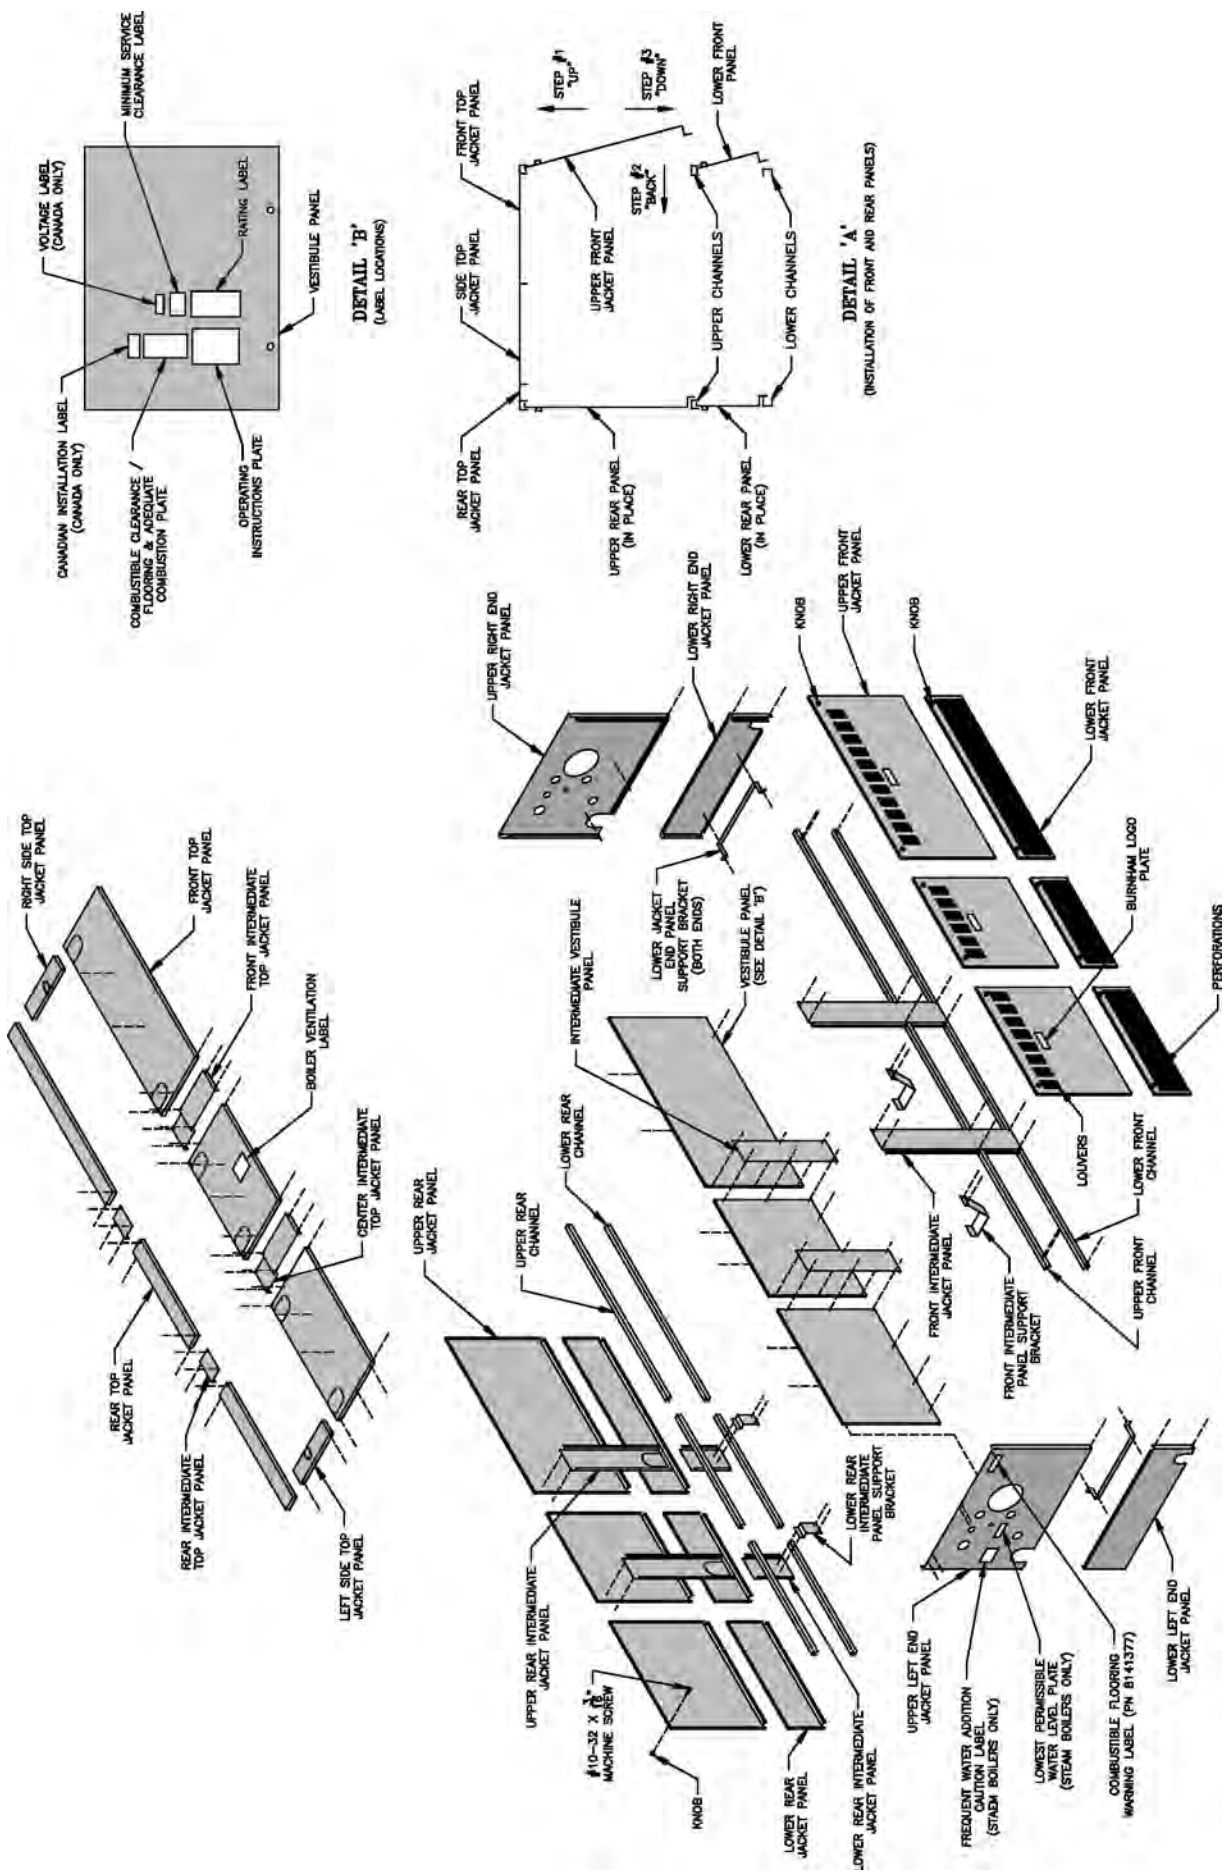

FIG. 23
- b. 11 thru 26 section boilers – Paragraph 30, Fig. 23
25. INSTALL UPPER FRONT, LOWER FRONT, UPPER REAR AND LOWER REAR PANELS using procedure described in detail "A" of Fig. 23.
- b. Attach Top Front Jacket Panels to left and right end Jacket Panels and also to top flange on the Vestibule Panel using #8 SMS. Refer to Fig. 23 or 24.
30. PLACE TOP INTERMEDIATE PANEL(S) ON TOP OF LEFT AND RIGHT PANELS, making sure that Front Intermediate Panel(s) is under Top Intermediate Panel(s). Secure Top Intermediate Panel using #8 SMS.
31. INSTALL KNOBS ON THE UPPER FRONT AND UPPER REAR PANELS using #10-32 x 3/16" MS. Install Upper Front, Lower Front, Upper Rear and Lower Rear Panels using procedure we described in detail "A" of Fig. 23 or 24.
- a. Install the following plates or labels which are found in the Instruction Envelope. See Fig. 23 or 24 for location.
- (1) Rating Label
- (2) Operating Instruction Plate (#8 SMS required to fasten)
- (3) Combustible Clearance Flooring & Adequate Combustion Plate
- (4) Minimum Service Clearance Label
- (5) Burnham Logo – Apply to Top Panel
- (6) Boiler Ventilation/For Your Safety Label